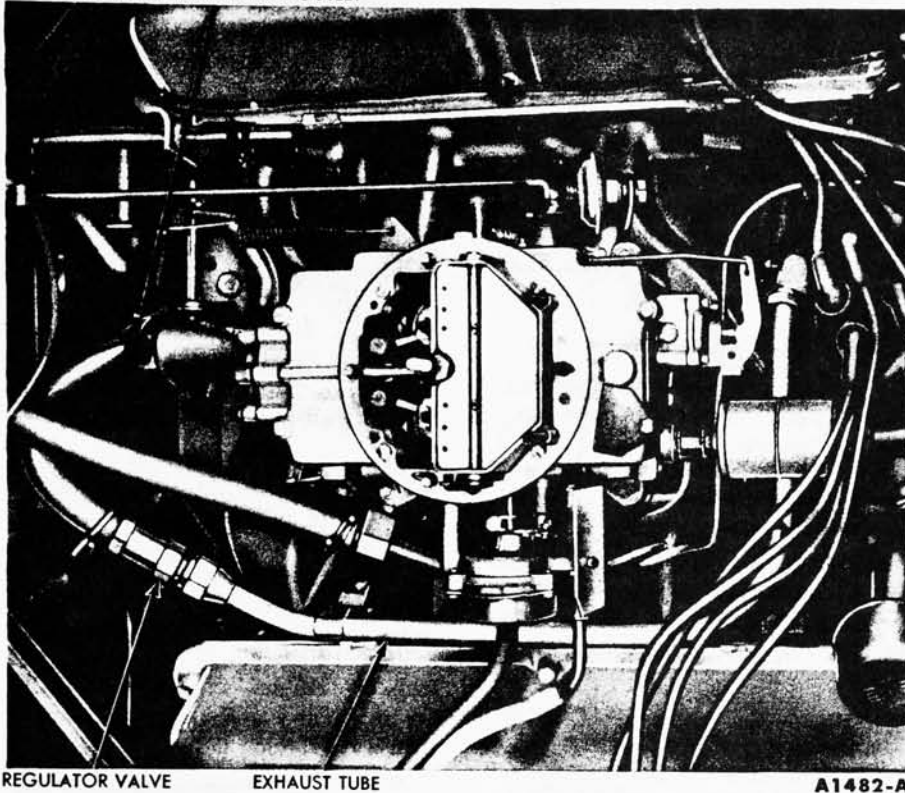

FIG. 32—Regulator Valve and Exhaust Tube
1. Disconnect the exhaust tube clamp from the intake manifold. Disconnect the exhaust tube from the crankcase ventilation outlet and from the intake manifold (Fig. 32).